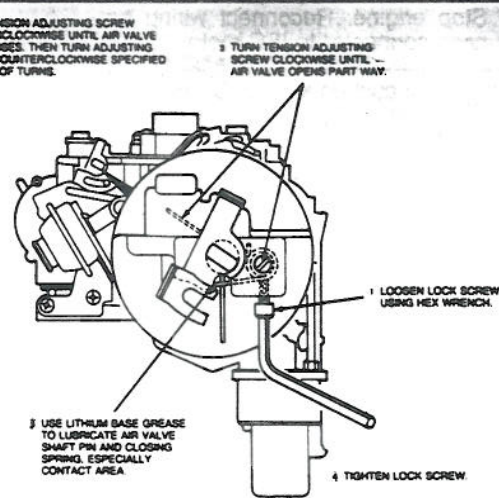

Fig. 21 Air valve spring adjustment. 1982-84 E2SE carburetor
1. Loosen lock screw, then turn adjusting screw clockwise until air valve is partially open, Fig. 21.